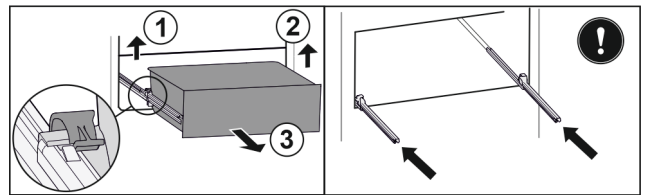

Fig. 66
- ▶ Lift left clamp and simultaneously pull drawer forwards on the left. Fig. 66 (1)
- ▶ Lift right clamp and simultaneously pull drawer forwards on the right. Fig. 66 (2)
- ▶ Remove drawer to the front. Fig. 66 (3)